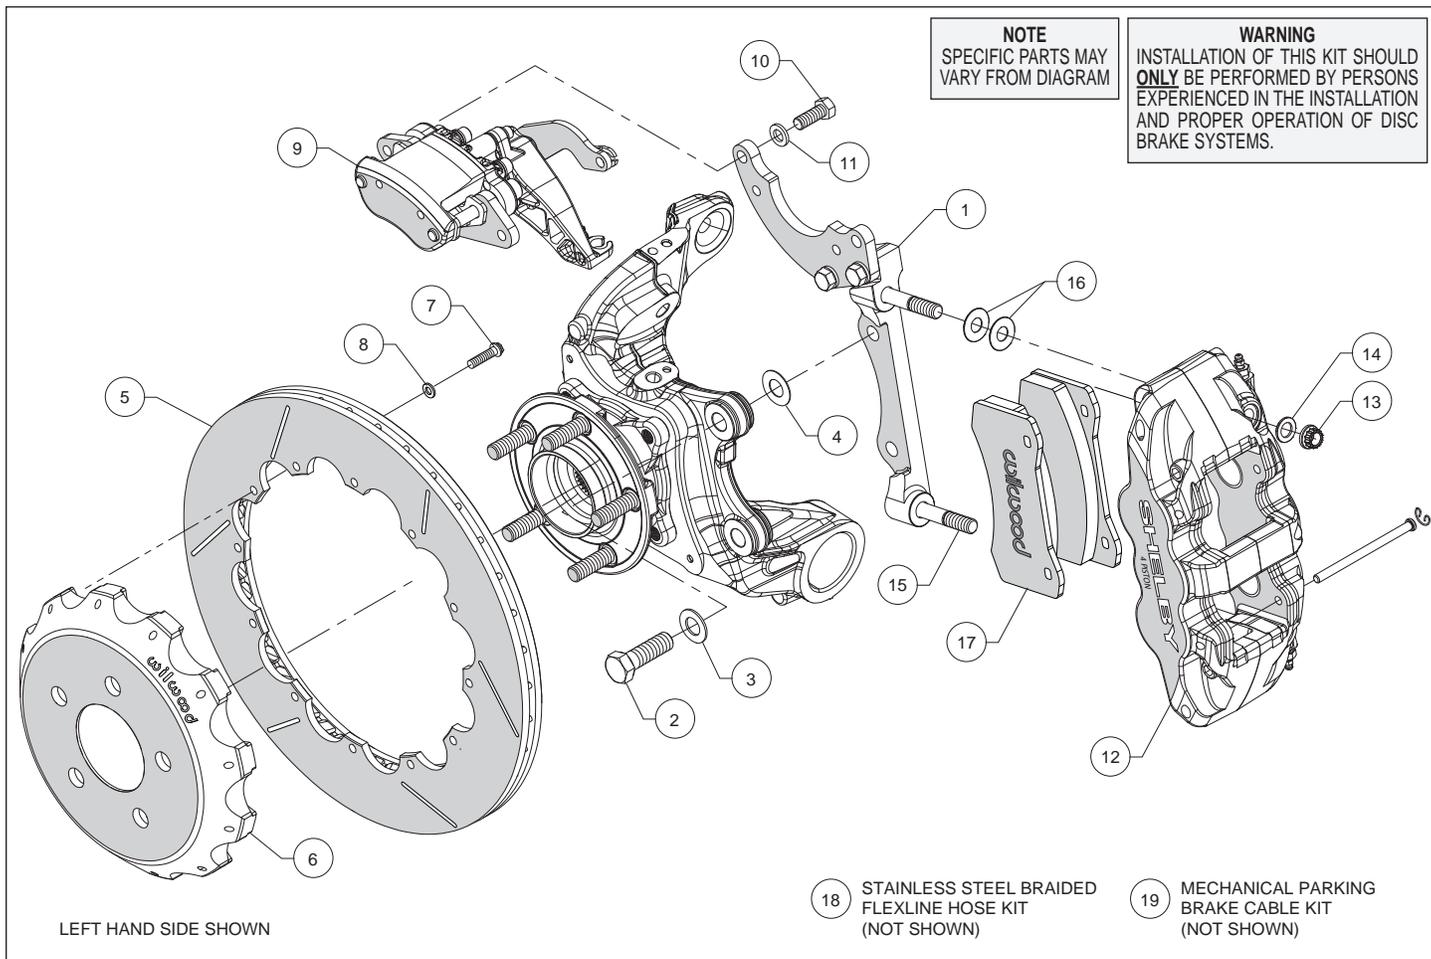
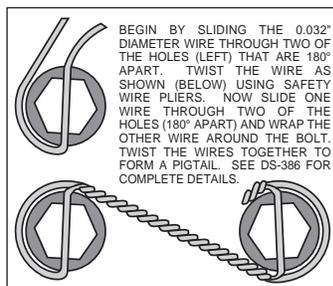

Figure 1. Typical Installation Configuration
Figure 3. Safety Wire Diagram
**Assembly Instructions** (numbers in parenthesis refer to the parts list and Figure 1 on the preceding pages):
- The caliper mount bracket (1) should initially be installed with clean, dry threads on the mounting bolts. Orient the bracket as shown in Figure 1, and Photo 1, and install using bolts (2) and washers (3). Initially place one .029" thick shim (4) on each bolt between the bracket and upright, Figure 1. Temporarily tighten the mounting bolts. **NOTE:** *The bracket must fit squarely against the mount bosses on the upright.* Inspect for interference from casting irregularities, machining ridges, burrs, etc. Later, after the caliper alignment has been checked, the mount bolts will be secured using red *Loctite*® 271.
- Orient the rotor (5) and the hat (6) as shown in Figure 1 and Photo 2. Attach rotor to hat using bolts (7) and washers (8). Using an alternating sequence, apply red *Loctite*® 271 to the threads, and torque to 155 **in-lbs**. For an added measure of security, the bolts may be safety wired using standard 0.032 inch diameter stainless steel safety wire as shown in Figure 3. Please refer to Wilwood's data sheet DS-386 (available at [www.wilwood.com/Pdf/DataSheets/ds386.pdf](http://www.wilwood.com/Pdf/DataSheets/ds386.pdf)) for complete safety wire installation instructions.
- Lubricate the caliper mounting studs (15) with lightweight oil. Initially place two .030" thick shims (16) on each stud as shown in Figure 1 and Photo 4. Mount the caliper (12) onto the bracket (1) using lock nuts (13) and washers (14), Figure 1. Temporarily tighten the lock nuts and view the rotor through the top opening of the caliper. The rotor should be centered in the caliper, Photo 5. If not, adjust by adding or subtracting shims (4) between the bracket and the mounting bosses. Always use the same amount of shims on each of the two mounting bolts. Once the caliper alignment is correct, remove the bracket mounting bolts one at a time, apply red *Loctite*® 271 to the threads, and torque to 77 ft-lb.
- Remove the two pad retaining pins from the caliper (12) by carefully popping out the pin retaining clips and sliding out the pins. Insert the brake pads (17) into the caliper from the bottom, Figure 1 and Photo 6. With the friction material facing the rotor, secure the brake pads in place with the pad retaining pins and clips, Photo 7. Reinstall the caliper onto the caliper mounting bracket and temporarily tighten the lock nuts. Check that the top of the brake pad is flush with the outside diameter of the rotor, Photo 8. If not, adjust by adding or subtracting shims (16) between the caliper and the bracket. After the caliper pad height is set, torque the caliper lock nuts (13) to 47 ft-lb.
- Orient the parking brake caliper (9), as shown in Figure 1 and Photo 9, and mount onto the top section of the caliper mounting bracket (1) using bolts (10) and washers (11), Figure 1.